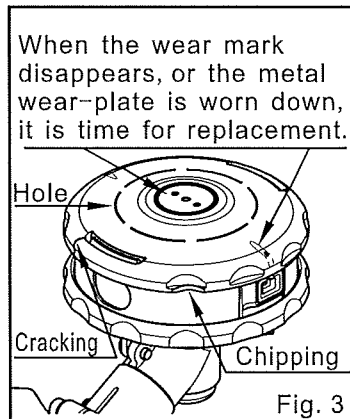

Fig. 3
- Your M-Twist trimmer head features a visible wear bar near the eyelets. When this wear bar disappears from long-term usage, you must replace the cover. Also, if holes or cracks form in the cover or any part of your M-Twist trimmer head, it is time for replacement. (Fig.3)